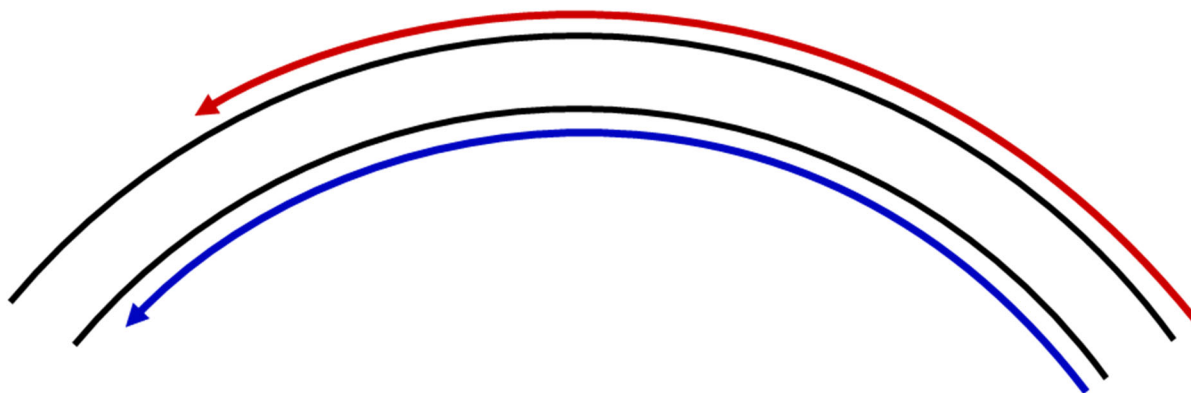

Figure 2: Difference in length between the inner and outer rail of curved track.
9. Explain to the students that because the outer rail is longer than the inner rail, if a railroad wheelset were to roll around the circle, the outer wheel must travel a longer distance than the inner wheel (Figure 2).